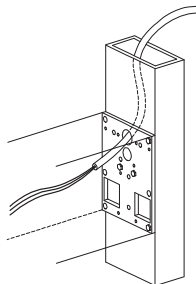

Figure 2-3
- 2.4. Feed the 240 volt power conduit into the header (Figure 2-3). Leave 12" minimum of wire inside the header for final hookup.